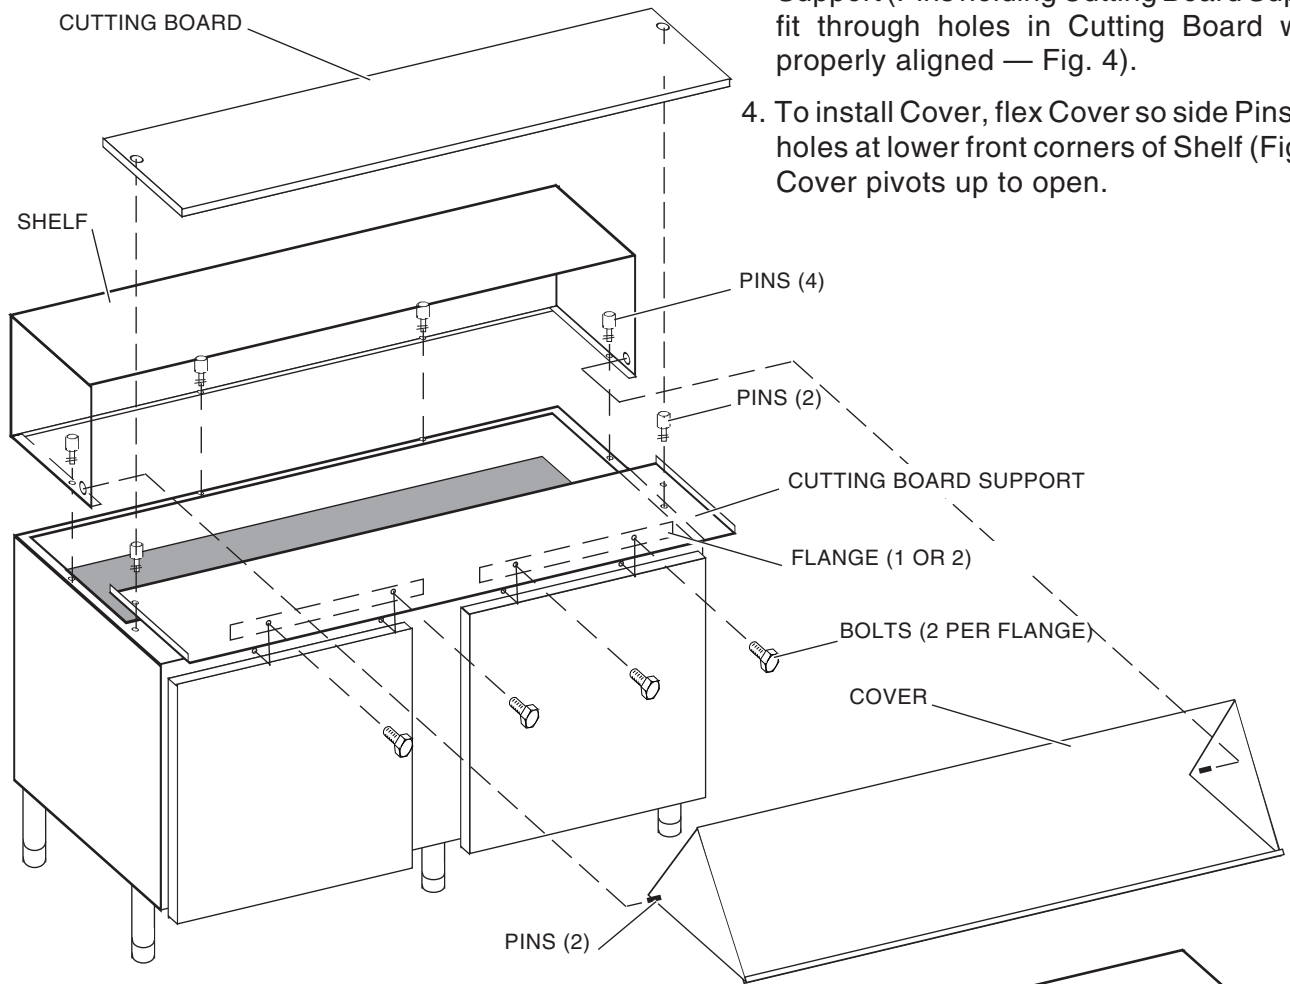

Fig. 4
## SANDWICH PREP TOP ASSEMBLY (Figs. 4, 5)
1. Place the Shelf on top of the rear of the unit. Secure by screwing four threaded Pins through base of Shelf and top of unit (Fig. 4).
2. Install Cutting Board Support. Secure with two threaded Pins and two Bolts per Flange (Fig. 4) (wider units may be equipped with an additional third Pin in the center).
3. Assemble Cutting Board to Cutting Board Support (Pins holding Cutting Board Support fit through holes in Cutting Board when properly aligned — Fig. 4).
4. To install Cover, flex Cover so side Pins fit in holes at lower front corners of Shelf (Fig. 4). Cover pivots up to open.